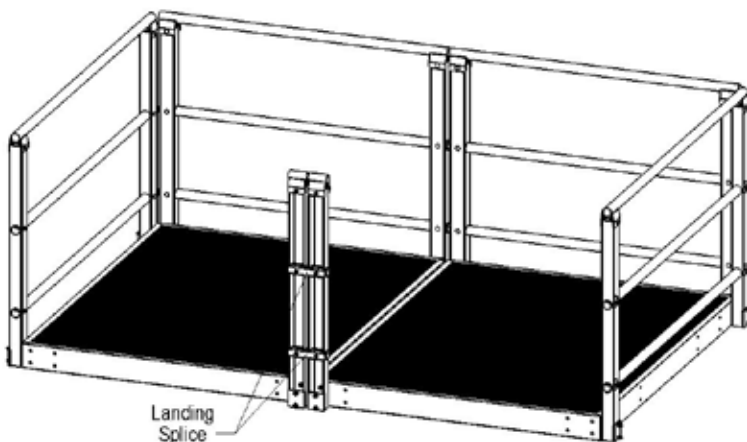
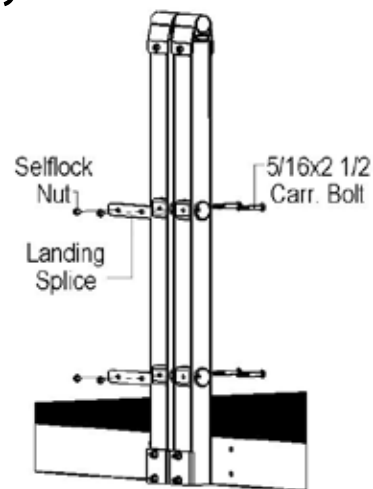

Fig.3.13
Fig.3.14
**3.4 Multiple Platform Base Assembly:** Position both bases with handrail fully assembled, and the legs attached side by side (Fig.3.13). Remove the 5/16 x 2½ carriage bolts from the handrail post middle, and bottom handrail tubes (Fig.3.14). Place a platform splice on the inside of the platform post at both the middle and bottom handrail locations. Replace the 5/16 x 2½ carriage bolts with 5/16 x 2½ carriage bolts supplied with the platform handrail splice kit. Push carriage bolt through all, after the clamp adapters have been replaced place a platform splice over the carriage bolts at the middle and bottom handrail location. Fasten all with self locking nuts.